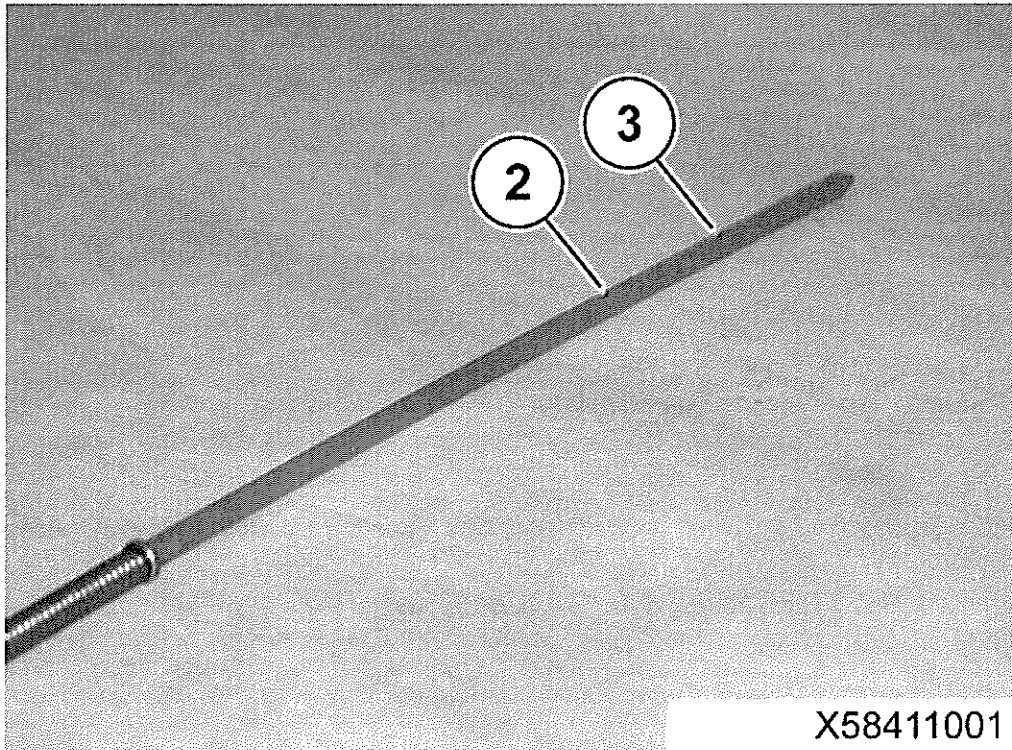

Fig 44 Engine oil dipstick MIN/MAX level marks
101 Refer to Fig 44. The oil level must be between MIN mark (3) and the MAX mark (2).